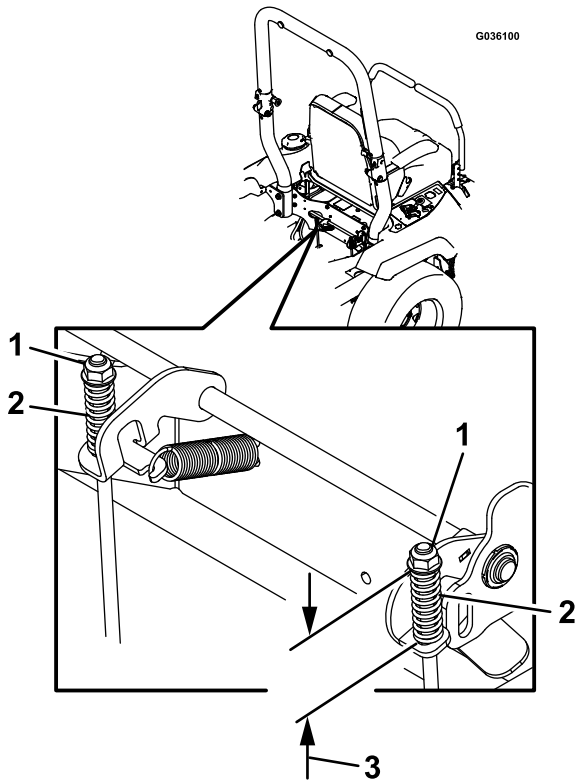

**Figure 58**
6. If an adjustment is necessary, disengage the parking brake. Remove the cotter pin from the brake linkage shaft (Figure 58).